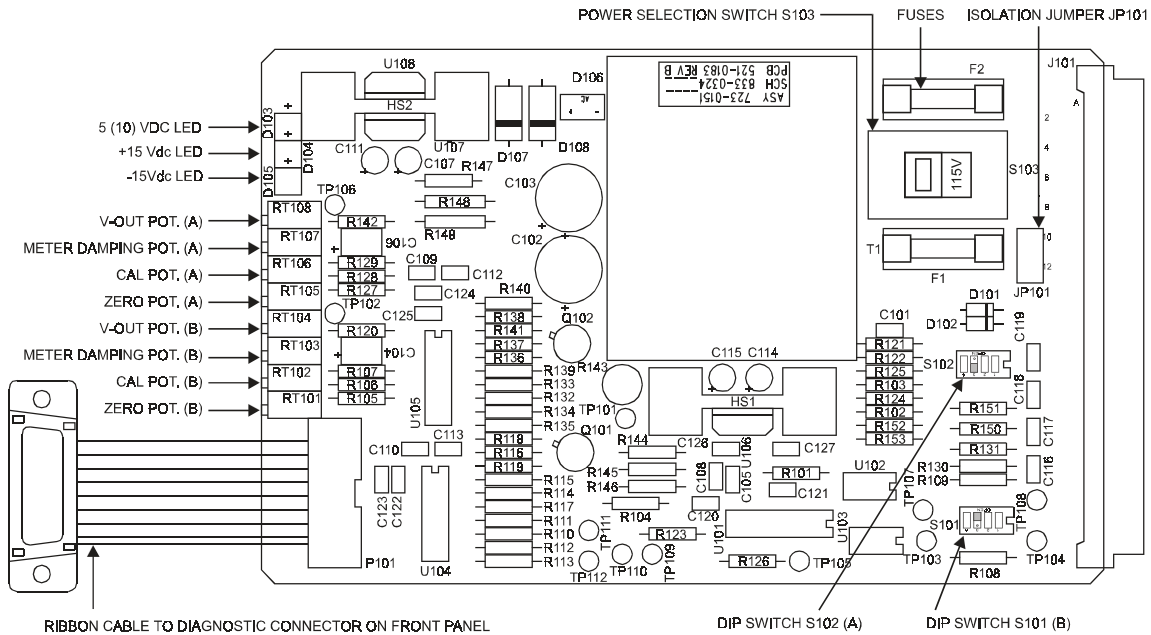

Figure 10 - TI-11 CIRCUIT CARD
3.4 POWER VOLTAGE SELECTION (See Figure 10, above)
3.5 TENSION METER OUTPUTS (See Figure 10 above for switch locations)
3.8 METER DAMPING (See Page 2 for description, Figure 10 for adjustment)
Refer to Figures 10 and 7. Remove jumper JP101 to isolate the TI-11 from earth ground. One of the devices connected to a TI-11 output must be grounded to prevent the TI-11 from floating too far above ground potential. Otherwise, both sets of transducers may short-circuit to ground through the strain gages.